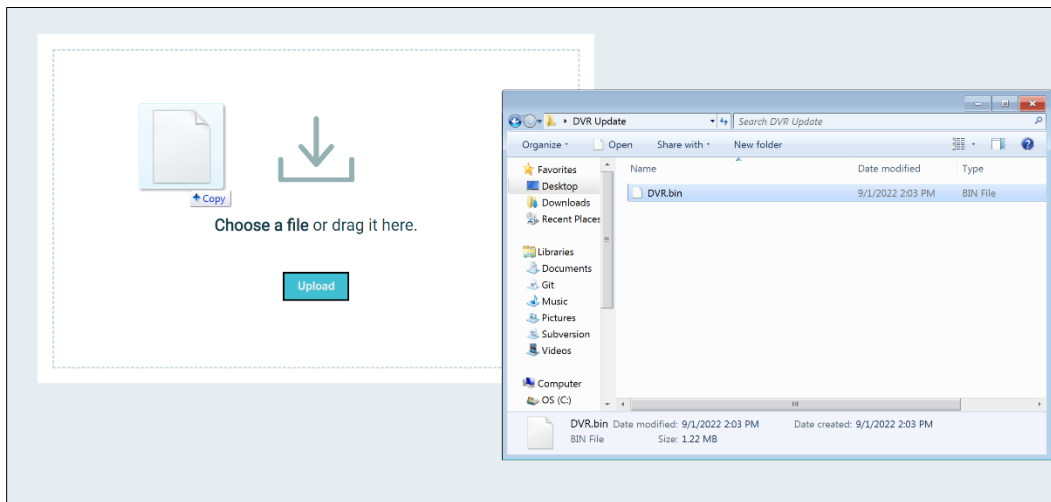

Figure 19: Drag and Drop .bin File for Upload
12. If software update is available, CANNON instrument Company will send the user a binary file that can be uploaded on this screen. Drag and drop the .bin file, then click Upload. See **Figure 19**.